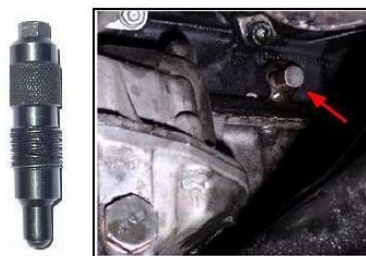

Fig. 4
- 2) Remove the TDC cap from the engine block and put in the crankshaft locking pin (GAT4401); which is used to retain the crankshaft at TDC position. The locking pin has to be screwed in via a threaded hole in the crankcase (Fig.4).